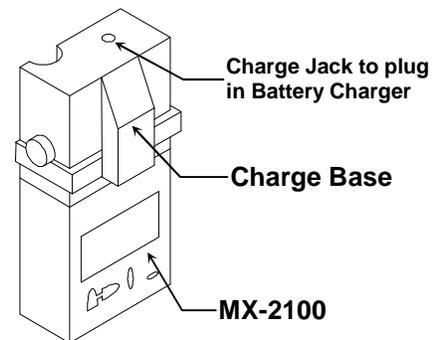

Figure 5: MX-2100 Charger adapter
- Connect the charge base to the top of the instrument as shown in the photo in **Figure 5** and plug in the charger. Charge for at least 2 hours 30 minutes for completely discharged batteries.